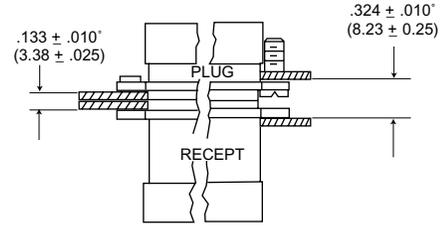

Figure 3
3. With both connectors rear mounted (float rivets on plug assembly side); use #4-40 flat head screws, flush with the panel (Fig. 3).